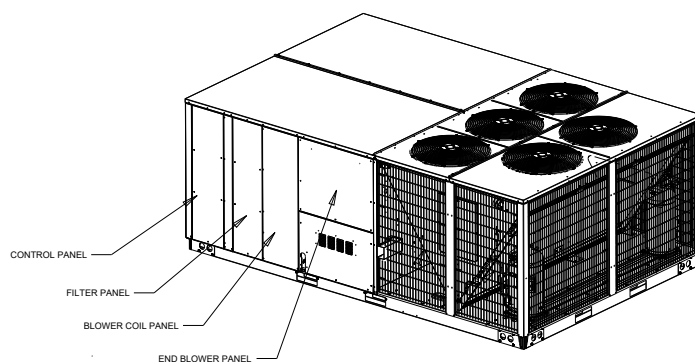

FIGURE 1
2. Remove the Control, Filter, Blower Coil and Blower panels in Figures 1 & 2.